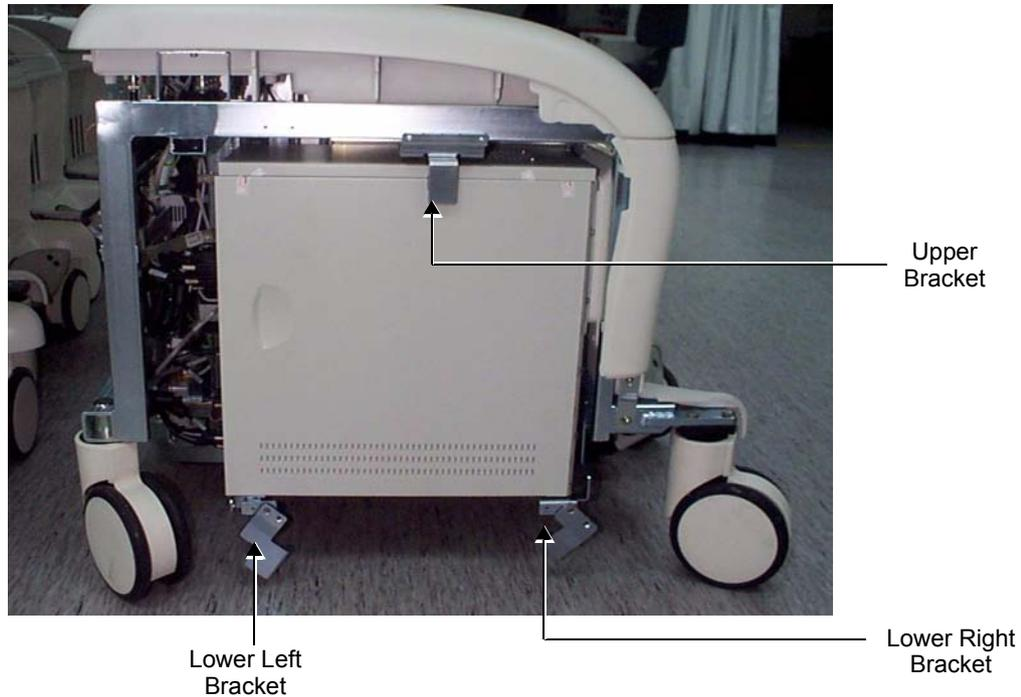

Figure 8-41 BEP - Position of Brackets on BEP2 Models
- a.) Remove the two screws of *upper* BEP bracket, see Figure 8-41 on page 8-49.
- b.) Remove the screws of the *lower* left and *right* BEP brackets (Figure 8-41).